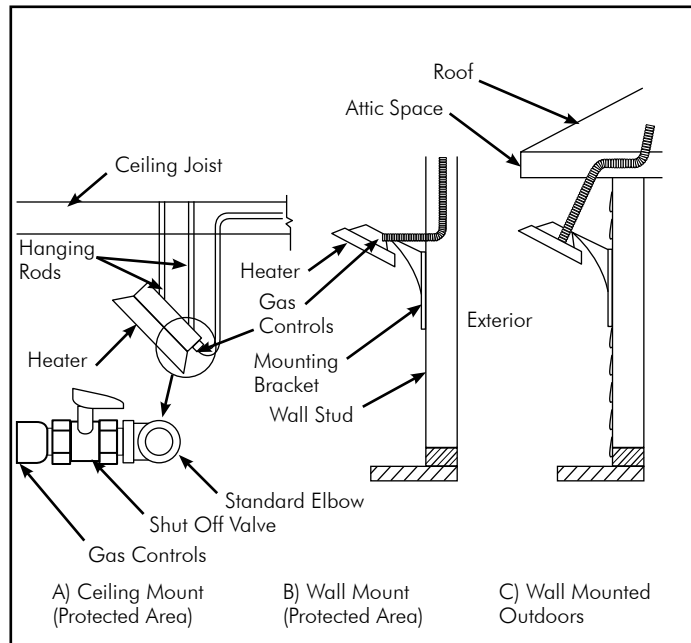

FIG. 4-27 Ceiling or wall hung infrared heater car ports/patios/decks
- Infrared heaters mounted from ceilings and from walls of structures shall be connected to the Diamondback system as shown in **FIG. 4-27**, and in accordance with CB Supplies Ltd.'s instructions.